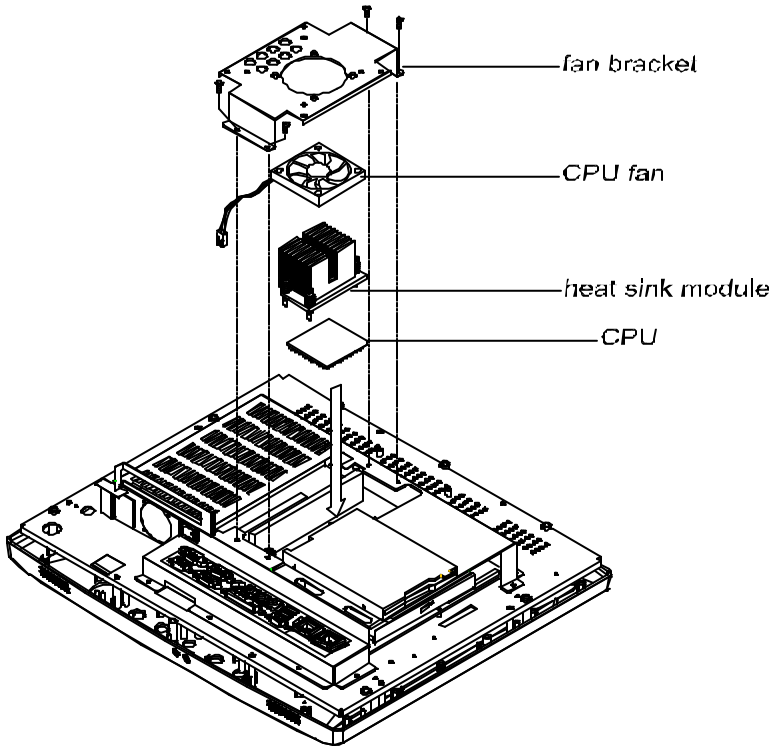

Figure 3-3: Installing the CPU
8. Insert the CPU with the correct orientation. The notched corner of the CPU (with the white dot) should point towards the end of the lever. The end of the lever is the blank area where one hole is missing from the corner of the square array of pin holes. An arrowhead printed on the motherboard points to the end of the lever. (See Fig. 3-3 overleaf.)
11. Place the heat sink on top of the CPU and fasten it with the heat sink clip (shown in Fig.3-3).